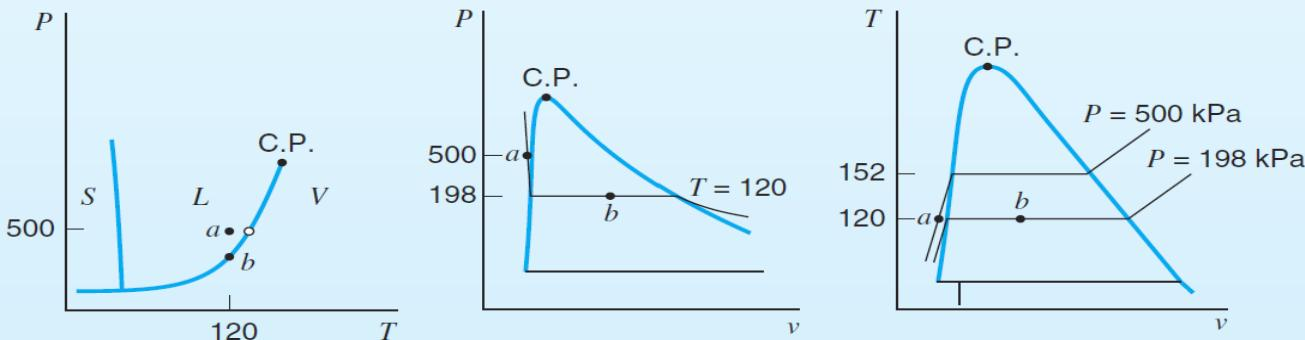

FIGURE 2.11 Diagram for Example 2.1.
- Enter Table B.1.1 with  $120^{\circ}\text{C}$ . The saturation pressure is 198.5 kPa, so we have a compressed liquid, point *a* in Fig. 2.11. That is above the saturation line for  $120^{\circ}\text{C}$ . We could also have entered Table B.1.2 with 500 kPa and found the saturation temperature as  $151.86^{\circ}\text{C}$ , so we would say that it is a subcooled liquid. That is to the left of the saturation line for 500 kPa, as seen in the  $P-T$  diagram.
so the state is a two-phase mixture of liquid and vapor, point *b* in Fig. 2.11. The state is to the left of the saturated vapor state and to the right of the saturated liquid state, both seen in the  $T-v$  diagram.